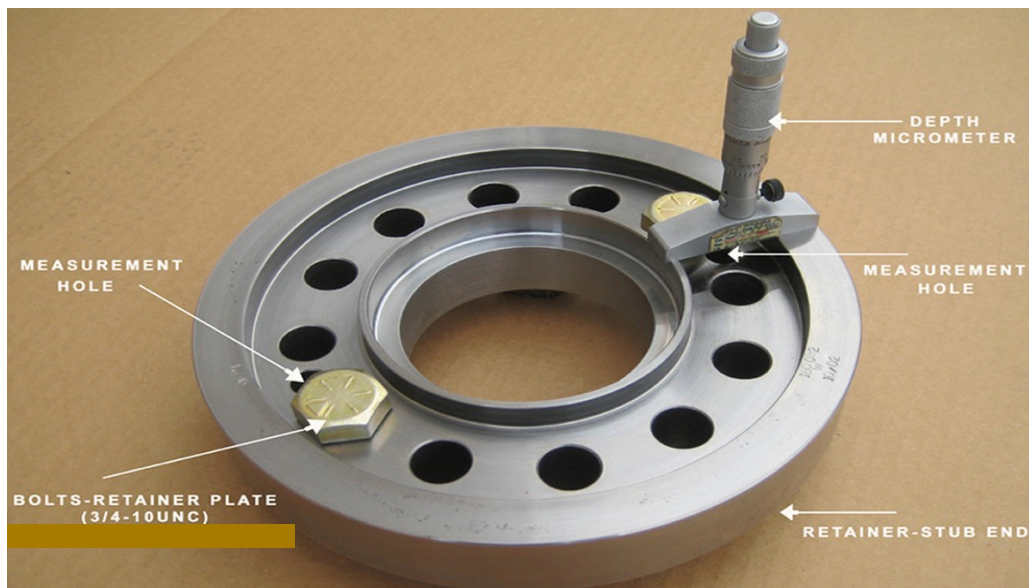
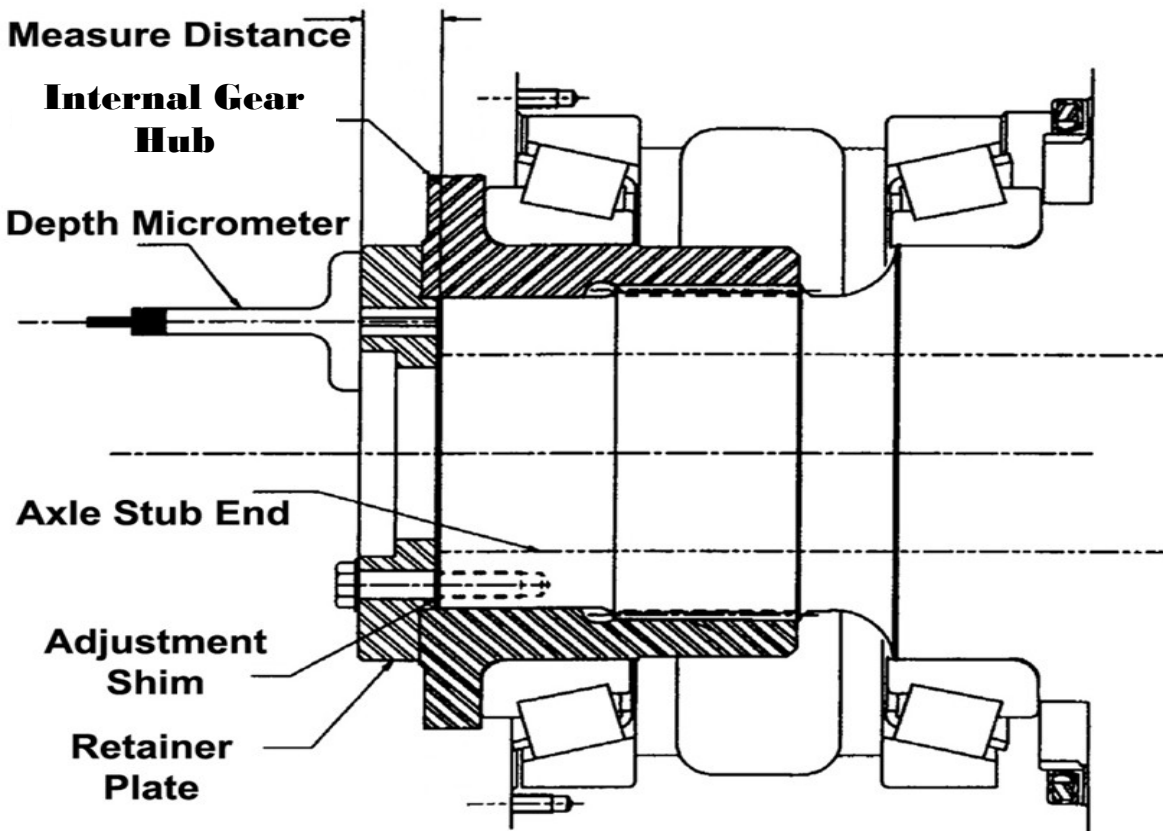

FIGURE 12
FIGURE 13
2. With wheel assembly positioned on stub end, install wheel bearing retainer plate without shims, using two retainer plate bolts, (3/4-10UNC), spaced 180° apart and next to the measurement holes. See **(Figure 12)**. Do not lube the bolt threads, install the bolts clean and dry. All threads in the stub end should be clean and dry. Tighten the bolts until retainer plate is snug against internal gear hub and looseness is taken out of the bearings but the bolts are not tight.
7. Using a depth micrometer, measure the total distance from the outer surface of the retainer plate to the spindle end, through each of the two retainer plate measurement holes and average the two measurements and record. See (Figure 12 and Figure 13).